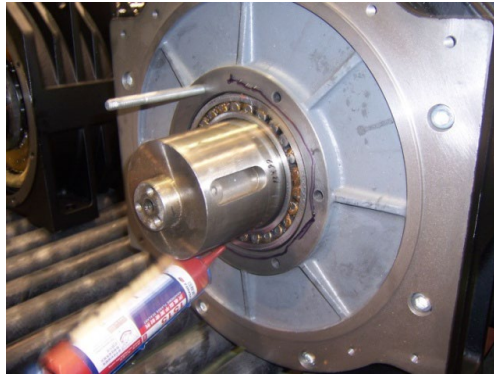

Figure 91 Apply sealant on Front Cover
7. Clean the Outer Cover, coat sealant on the Front Cover surface which mates with the Outer Cover surface. See Figure 91.